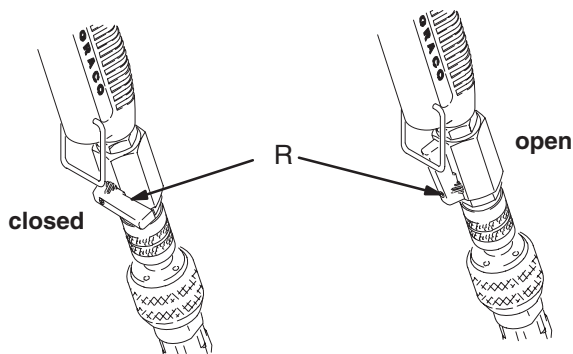

Fig. 10
- b. Open fluid supply valve (H).
2. After the 1/2-thickness material begins to enter the hose, fill the pressure pot (F) with the prepared texture material. Install the float assembly on top of the material to prevent air from disrupting material flow.
4. Open the gun air valve (R) (see Fig. 10) to be sure air pressure is relieved and then close it. The system primes easier if no air is supplied to the gun.
6. Turn the ON/OFF switch (A) ON. Trigger the gun into a pail. Continue until there is a solid stream of texture material.